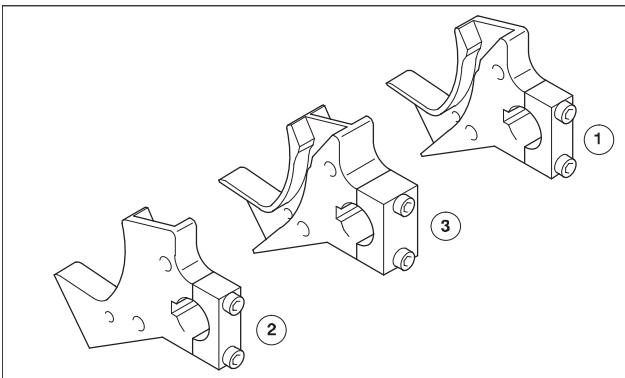

Fig. 9 Cams
- **LH cam** (Fig. 9/2): the cam track is on the left side of the cam; the numbering boxes are mounted to the left of the cam.
- **RH cam** (Fig. 9/1): the cam track is on the right side of the cam; the numbering boxes are mounted to the right of the cam.
- **D cam** (Fig. 9/3): double cam: cam tracks are arranged on both sides of the cam. Numbering boxes can be mounted on the left and right of the cam.